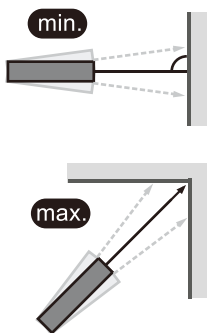

figure 3
• Continuous Measurement (Min / Max) (figure 3)